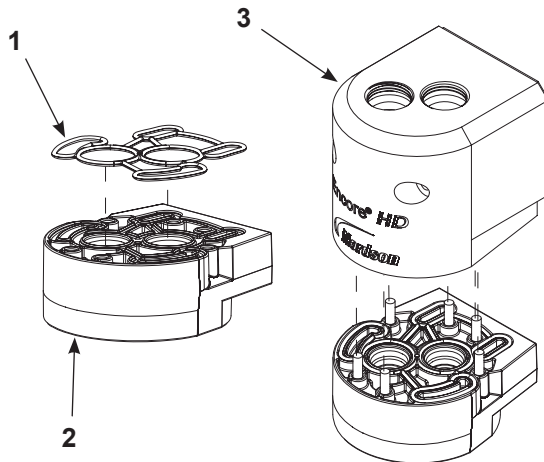

Figure 22 Assemble the Lower Y Block to Purge Manifold
1. See Figure 22. Place the customized O-ring (1) into the upper Y block (2) as shown, then fasten the upper Y block to the purge manifold housing (3) with the provided hardware.